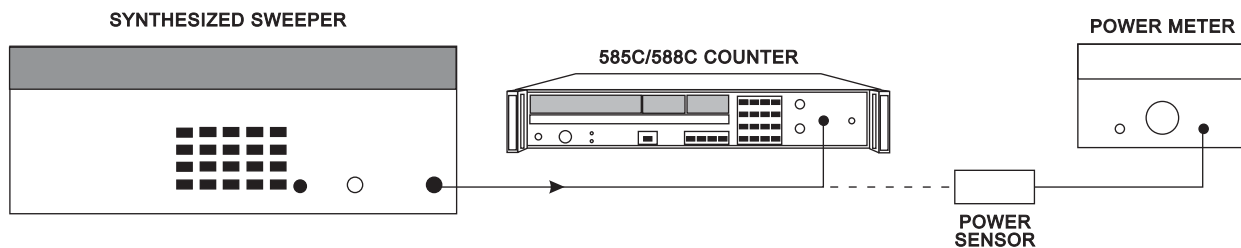

Figure 6-3. Band 0 Range and Sensitivity Test Setup 2 (100 MHz to 250 MHz)
1. Connect the equipment as shown in Figure 6-3.